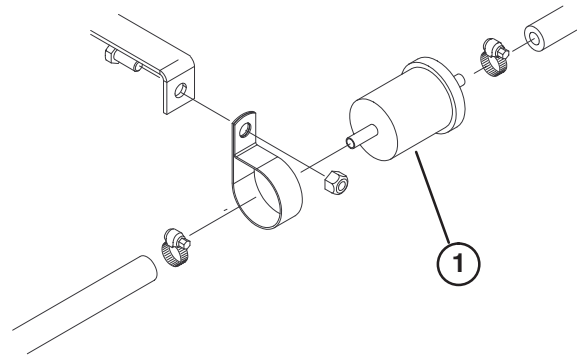

Figure 34
Replace the fuel pre filter (Fig. 34), located between fuel tank and fuel pump after every 400 operating hours or yearly, whichever occurs first.
1. Clamp both fuel lines that connect to the fuel filter so fuel cannot drain when lines are removed (Fig. 34).